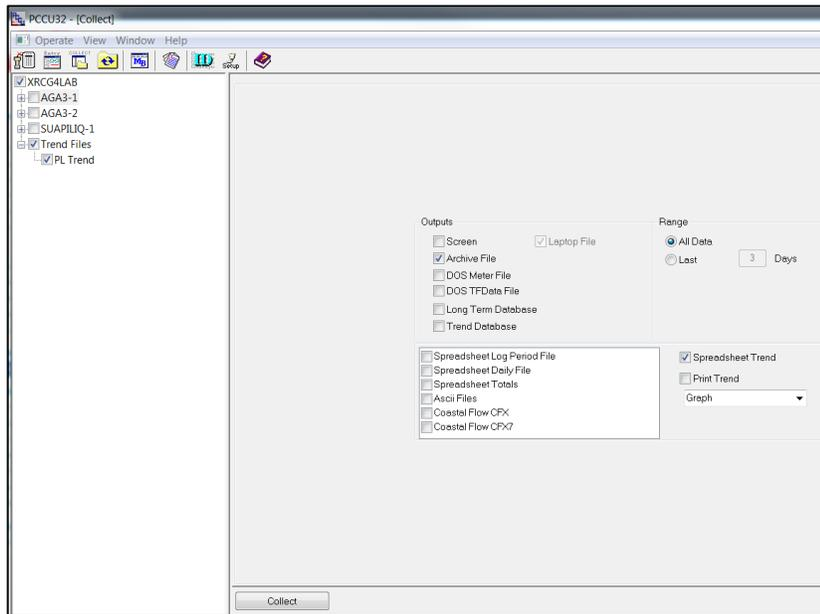

Figure 5: PCCU Collect screen
- 2) At the Collect screen (Figure 5), on the tree view, check the **Trend Files** checkbox and the **PL trend** (or trend file name) checkboxes.